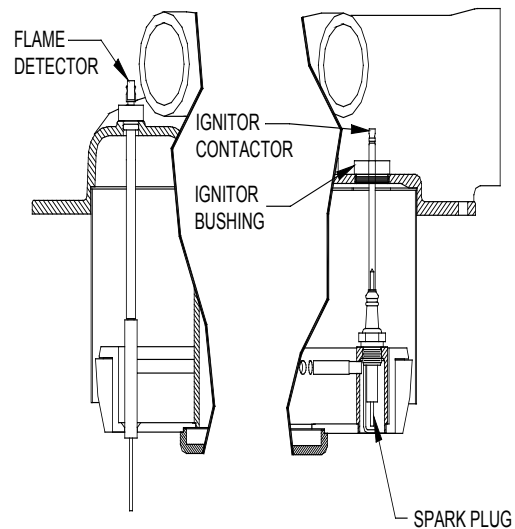

Figure 7.1B
4. Insert the ignitor removal tool into the burner shell, where the ignitor bushing was removed. Fit the hexagonal end of the tool over the ignitor. (See Fig. 7.1B) Unscrew the ignitor from the burner head. Remove the ignitor from the burner shell, by grasping the contact end of the ignitor.
3. Disconnect the flame detector lead wire. Unscrew the flame detector and remove it. (See Fig 7.1B)